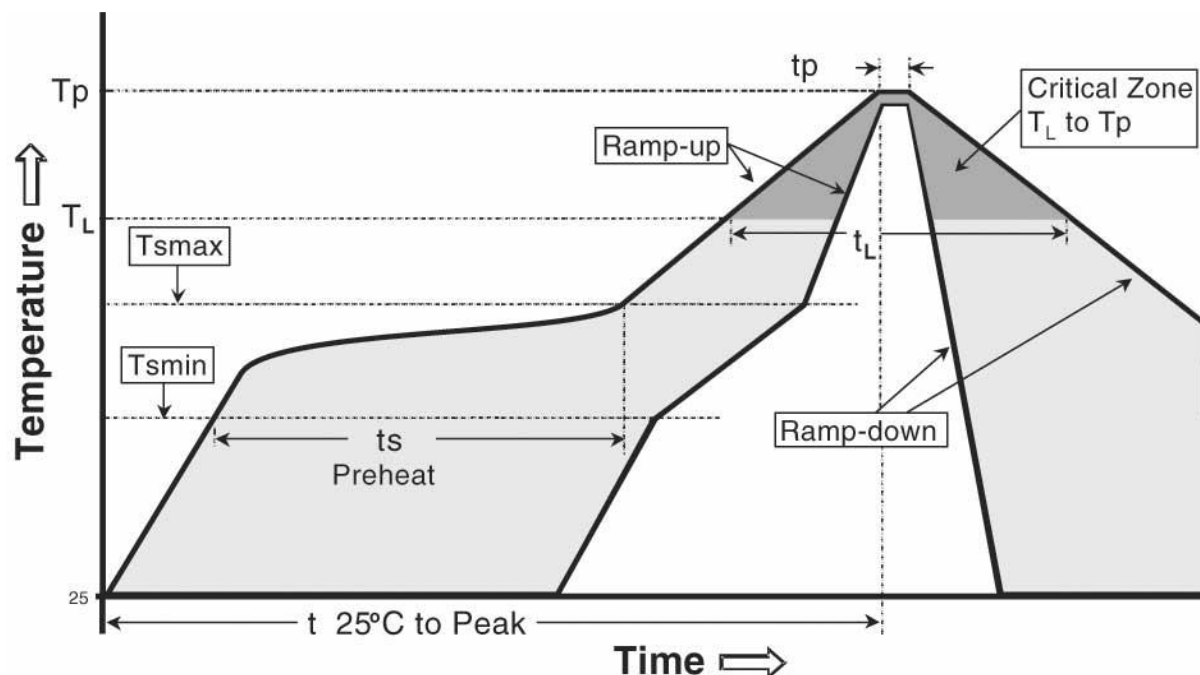

Figure 8 – Temperature profile.
2. Perform a reflow process according to the temperature profile detailed in Table 3, Figure 8 on page 14.